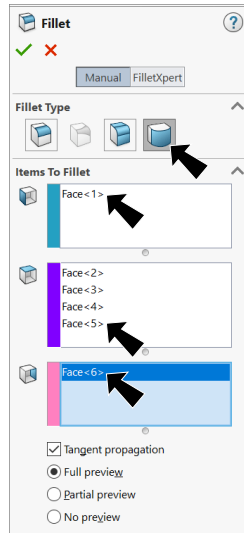

Fig. 51
Step 2. In the Fillet Property Manager, select **Manual**, **Fig. 51** under Fillet Type